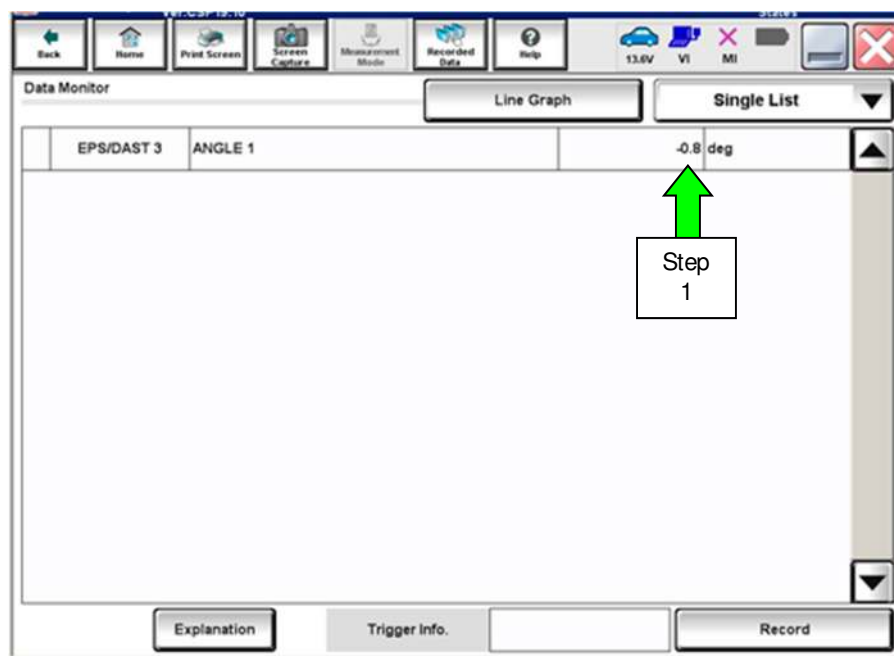

Figure 5
1. With C-III plus in Diagnosis (All Systems), select EPS/DAST 3 >> DATA MONITOR >> ANGLE 1, and then check the value of ANGLE 1 (see Figure 5).